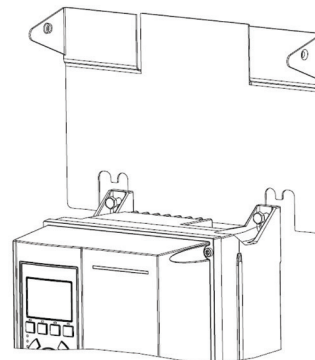

Figure 3
1. Slide the bracket between the VFD mounting surface and the back of the VFD (See Figure 3).